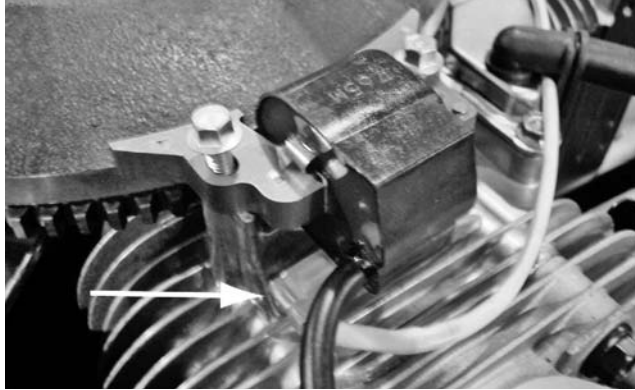

Figure 30.
5. Long plug wire (B) will be installed on front cylinder number two.
6. Short plug Wire (A) will be installed on back cylinder number one.
7. Verify installation of magnetos correctly by ensuring both spark plug wires point to the back of the enclosure and shutdown terminals are nearest cylinder head as shown in Figures 30 and 31.